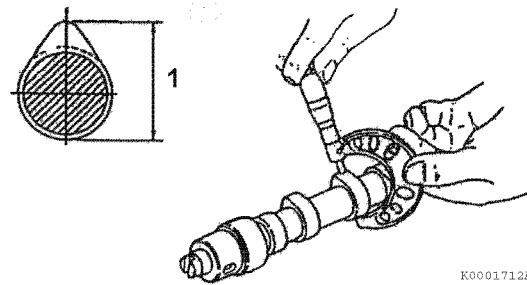

Figure 6-125
3. Measure the height of each lobe (Figure 6-125, (1)). See Camshaft on page 6-8 for specifications.